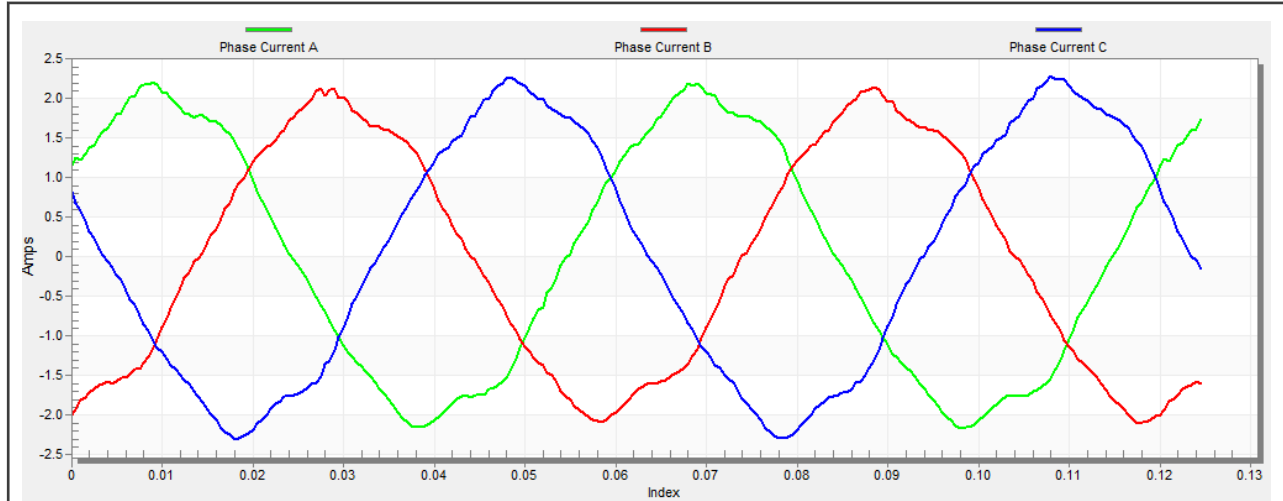

Figure 22. Phase currents
- The optimal ratio for the V/Hz profile can be found by changing the V/Hz factor directly using the “M1 V/Hz factor” variable. The shape of the motor currents should be close to a sinusoidal shape (Figure 22). Use the following equation for calculation V/Hz factor: